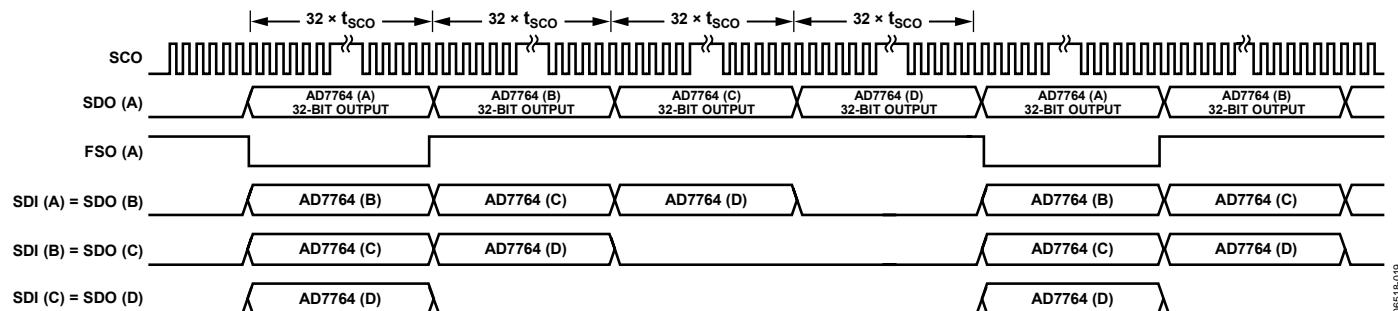

Figure 41. Daisy-Chain Mode, Data Read Timing Diagram (for Daisy-Chain Configuration Shown in Figure 40)
After applying a SYNC pulse to all devices, the filter settling time must pass before the FILTER-SETTLE bit is asserted indicating valid conversion data at the output of the chain of devices. As shown in Figure 41, the first conversion result is output from the device labeled AD7764 (A). This 32-bit conversion result is then followed by the conversion results